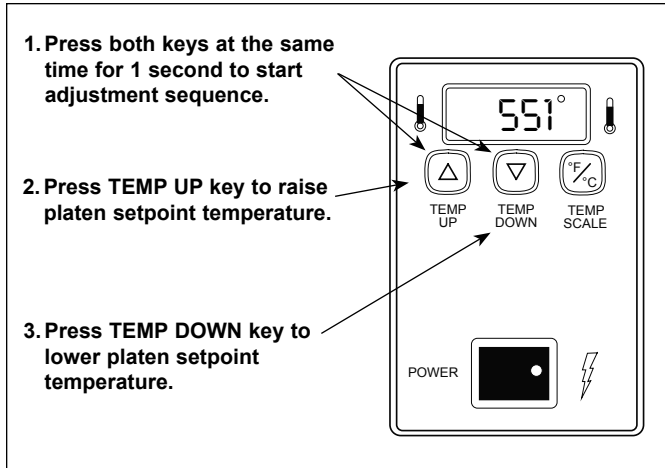

Figure 8. Adjusting Platen Heater Temperature Setpoint
2. Press and hold both TEMP UP and TEMP DOWN keys for over 1 second until the display flashes the setpoint temperature, then release (Figure 8).